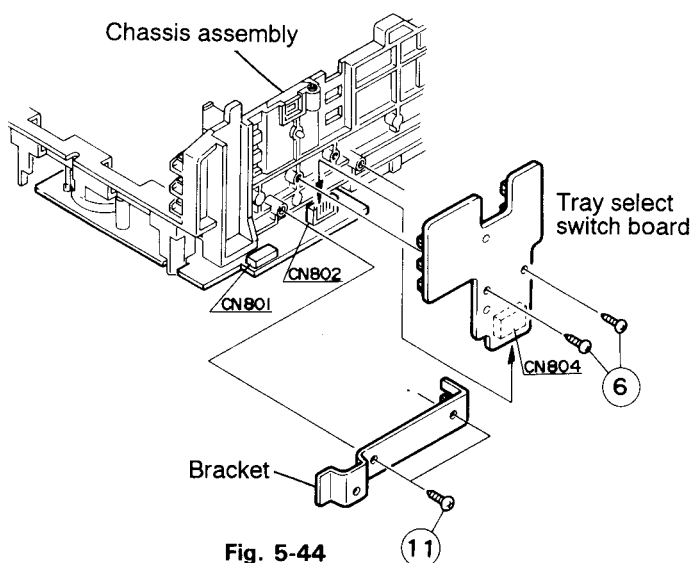

Fig. 5-44
2. Remove the two screws (6) retaining the actuator motor board (See Fig. 5-44).
4. Remove the two screws (7) retaining the tray select switch board (See Fig. 5-44).